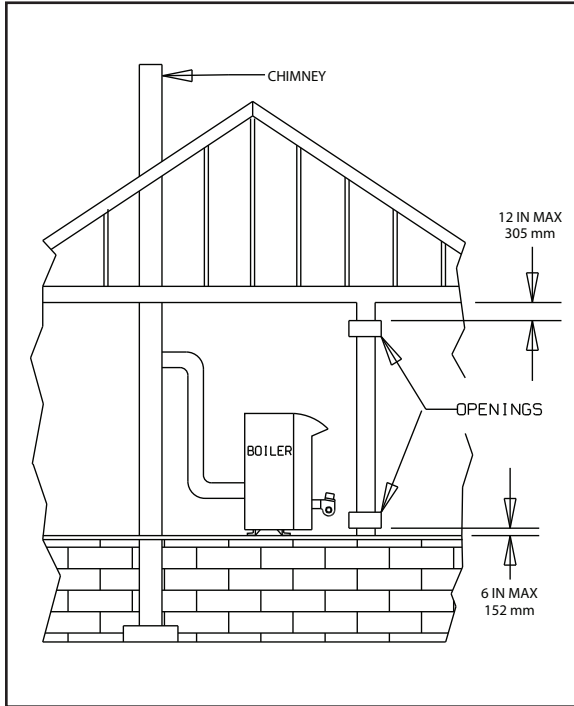
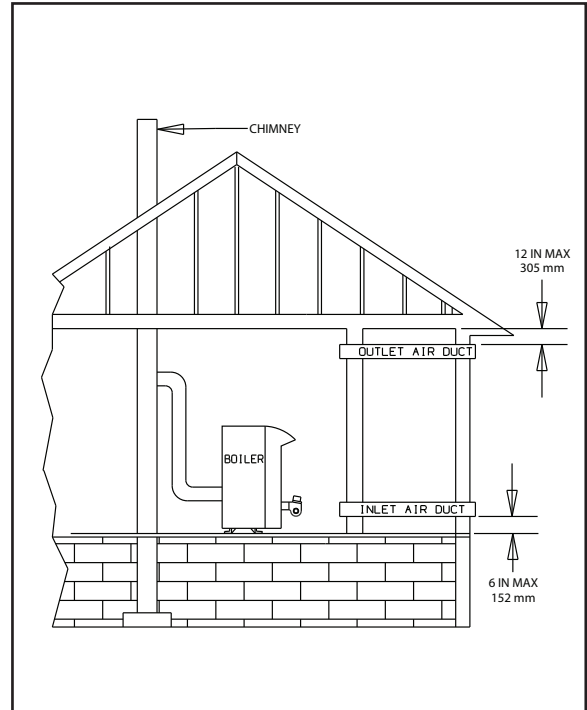

Figure 3a.
Figure 3b.
- E. Install barometric draft regulator on horizontal breeching, near chimney, with hinge horizontal and face vertical conditions permitting as in Figure 3a. See Figure 3b as a second choice. See manufacturer's instructions packed in carton with barometric draft regulator.